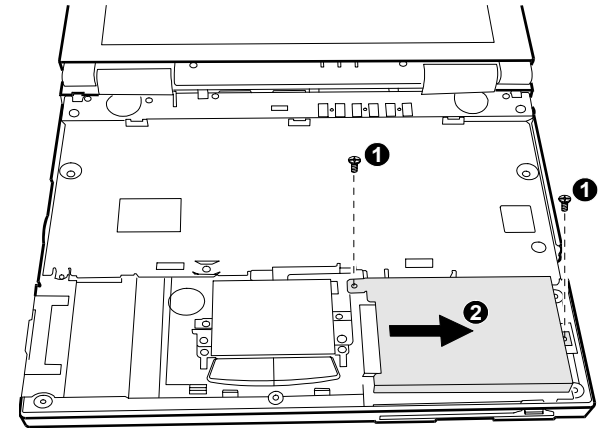

Figure 5-29. Removing the Hard Disk Drive
2. Plug the hard disk drive connector to the touchpad board and secure the bracket in place with two screws. (Refer to Figure 5-29 earlier.)
6. Replace the hard disk drive with its bracket by plugging the connector to the touchpad board and securing with two screws. (Refer to Figure 5-29 earlier.)